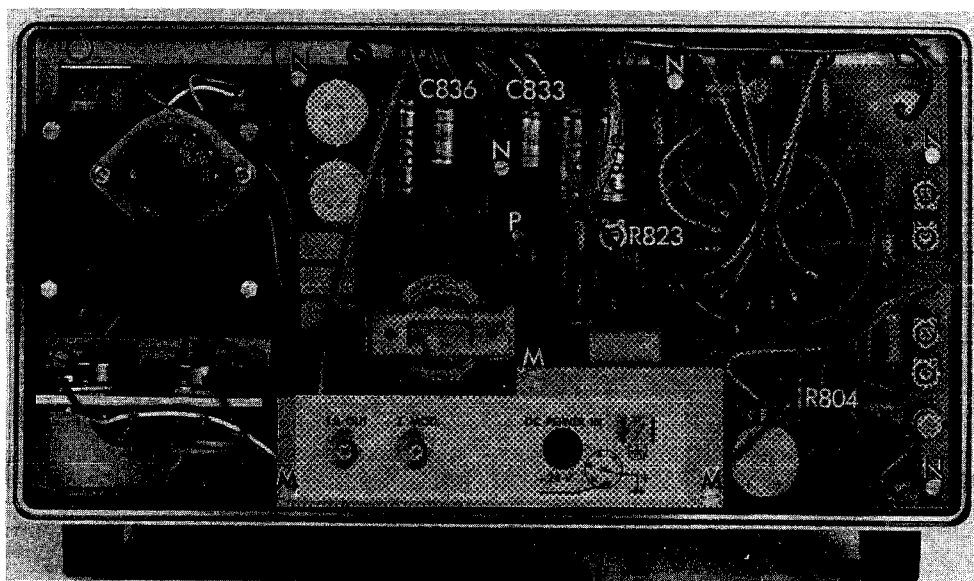

Fig. 3.10. Adjusting and dismantling
- Check that the voltage across capacitor C833 is +12 V, + or –20 mV; if necessary, readjust potentiometer R823 (Fig. 3.10.).